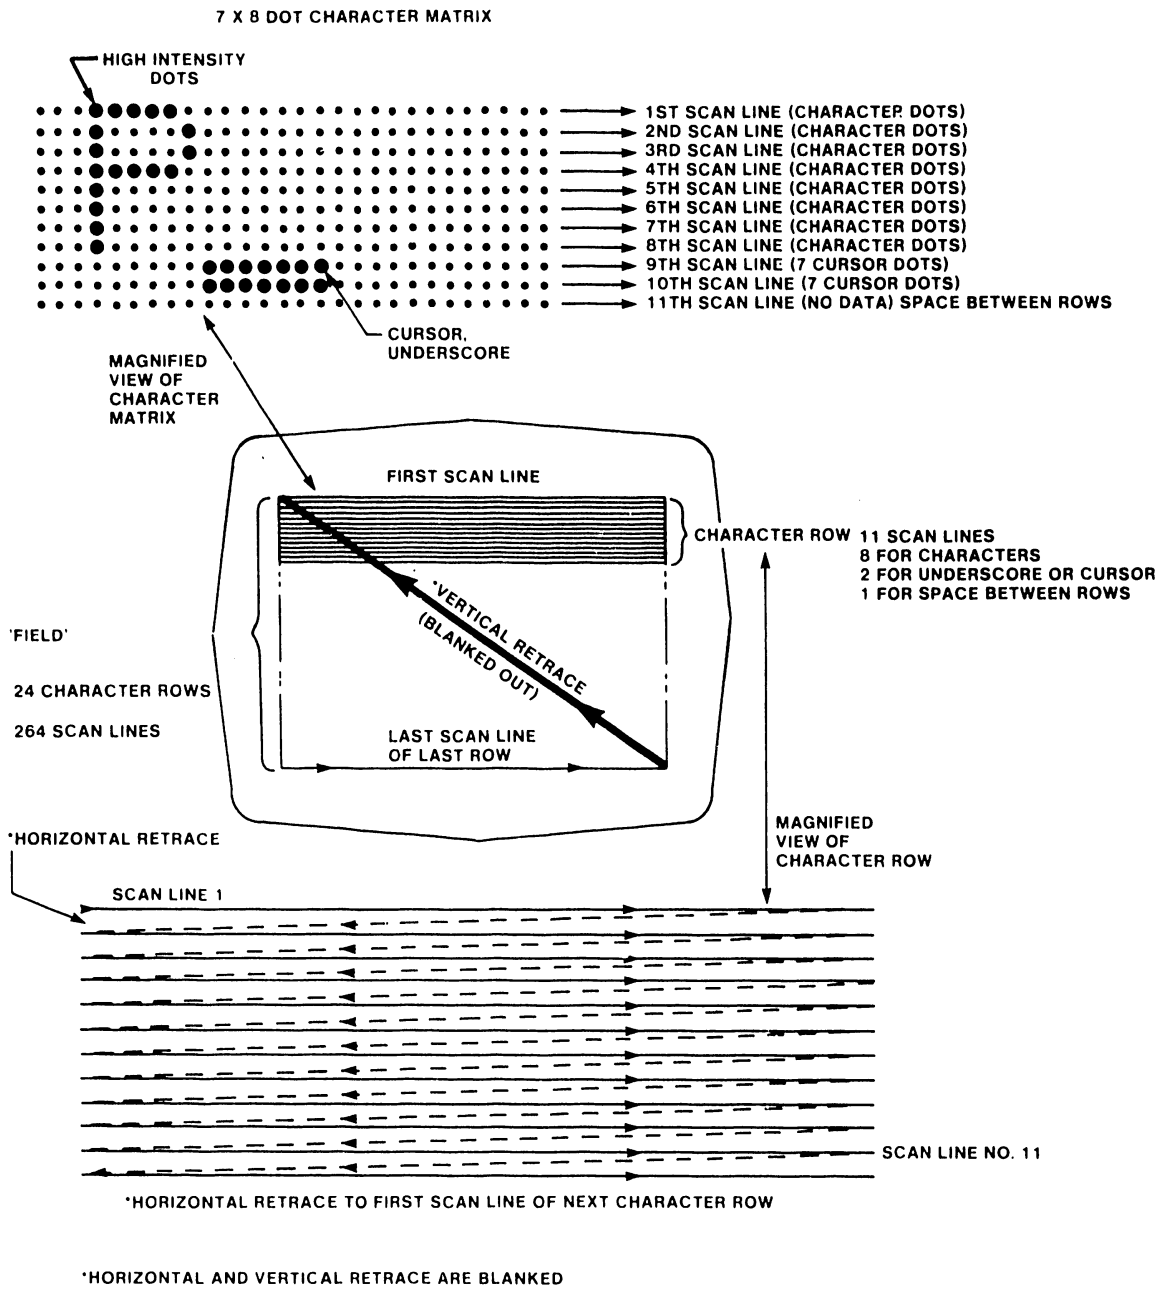

FIGURE 2-7 SCREEN FORMAT
2.6.2.1 Video Timing and Control (Figures 2-7 and 2-8)